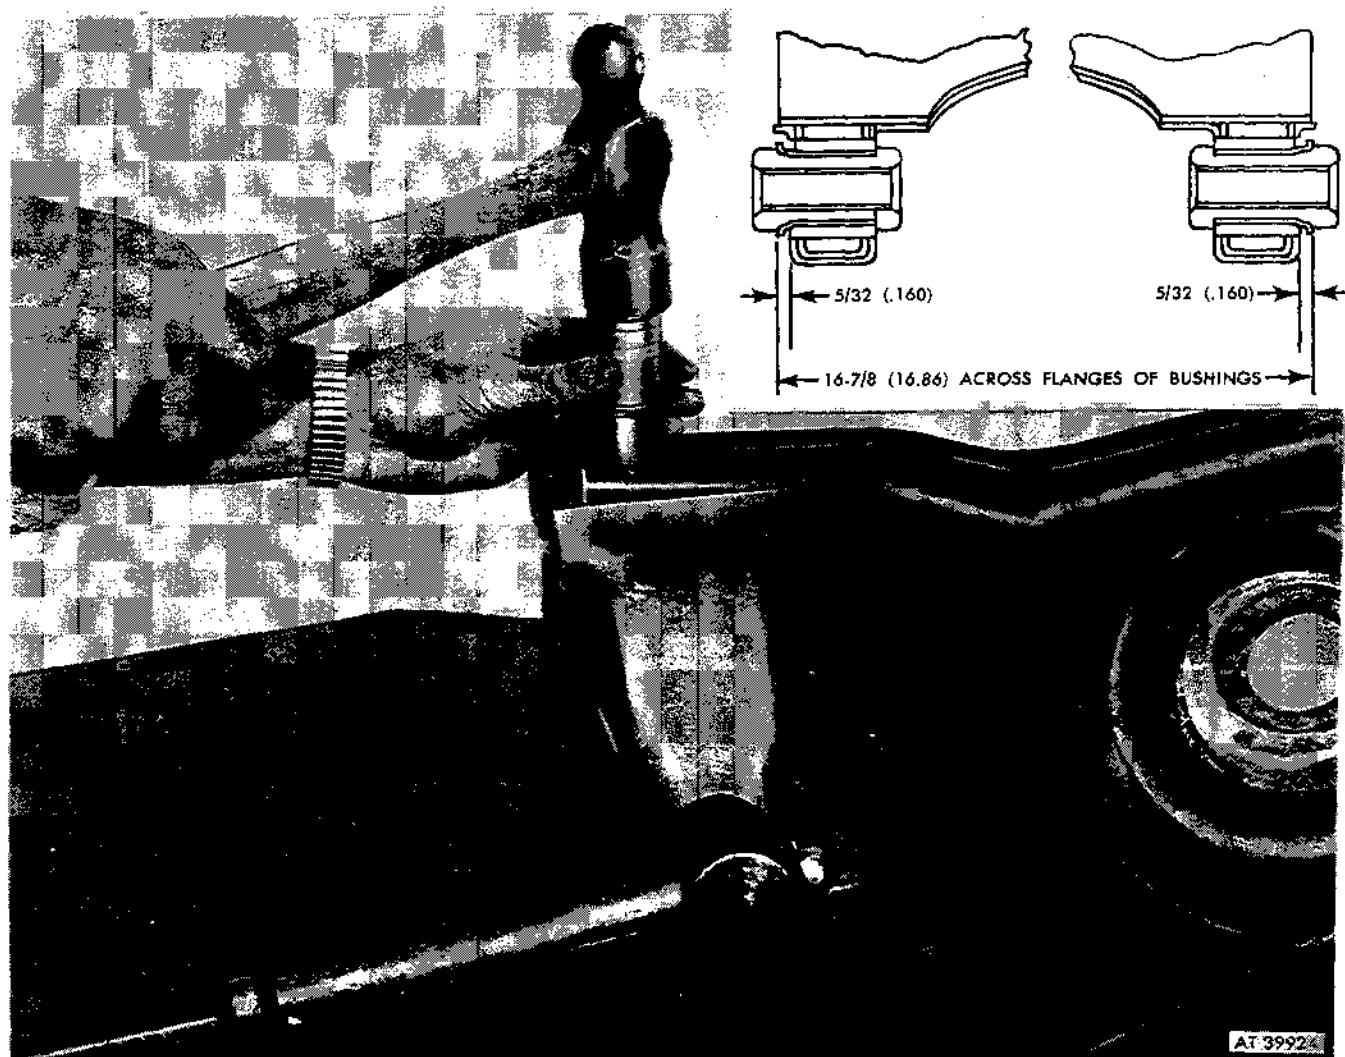

Figure 2-349. Removing or installing suspension arm bushings.
(1) Apply a thin film of GAA grease to outer case of bushing and start bushing into bore of suspension arm.
(2) Use suitable socket and machinist's hammer and seat bushing in suspension arm bore to dimensions shown on figure 2-349.